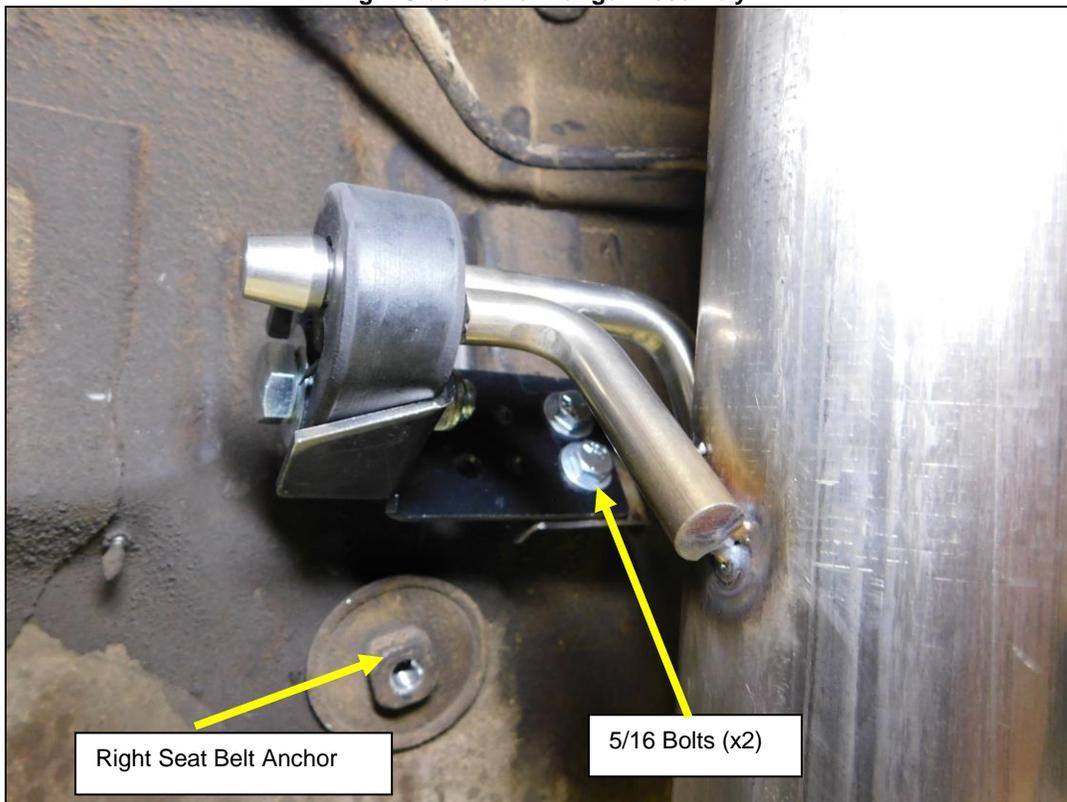

Figure 5
4. Install the Right (passenger's) muffler hanger bracket assembly on to the factory muffler hanger bracket location just above the seatbelt bolt. Install a flat washer on the back side of the factory mounting plate and install the 5/16 flange nuts. Adjust the bracket level and tighten the hardware (Figure 5).